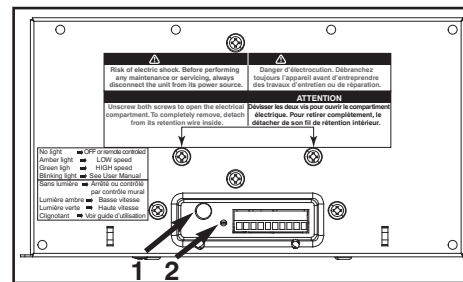

Fig. 11 - Integrated Control
All units are equipped with an integrated control, located under the unit, in front of the electrical compartment. Use the push button (1) to control the unit. The LED (2) will then shows on which mode the unit is in. Integrated Control overrides Wall Control function. When LED is off, ventilator responds to Wall Control command. See Fig. 11.